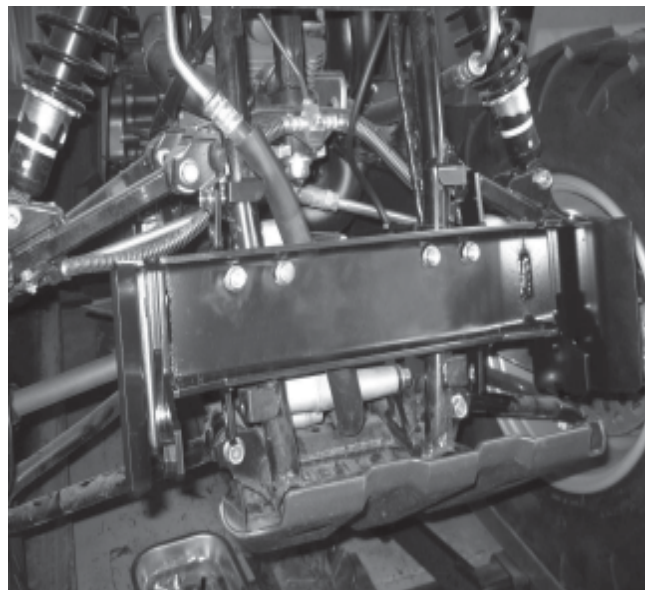

Figure 3
4. Place the front plow mounting bracket into position on the front of the vehicle. The bracket will be in front of the two main frame rails. Use the 2, M8-1.25 x 20mm flange hex bolts to help hold the mounting bracket into position. Run the M8 hex bolts through the top 2 tabs and into the mounting tabs on the frame tube. Do not tighten these bolts at this time, these are just to hold the bracket into position, see figures 3.